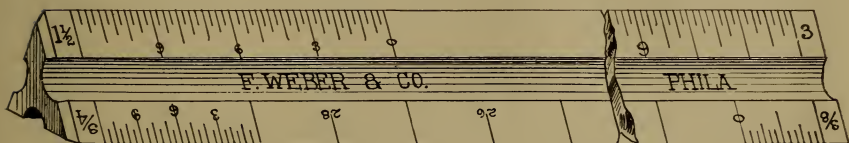

Fig. 22. Triangular Boxwood Scale.
2. SCALES OF DRAWINGS. It is not practical generally to lay out an object to actual dimensions on a sheet of paper of convenient size. Therefore, the object is drawn smaller, say  $\frac{1}{2}$ ,  $\frac{1}{4}$  or  $\frac{1}{16}$  of the actual size. In order to save time, use is made of a scale, such as shown in Fig. 22, where the lengths are shown to the reduced size. The triangular scale shown has six faces and different scales are marked on each of them.
4. USE OF SCALES. It will be noted that at the end of each face of scale, Fig. 22, 1 ft. is divided into inches and fractions, and on the other side of the zero mark only feet divisions are indicated. To lay off a dimension of feet and inches, for example 2 ft. 3 in., measure from the 2 ft. mark back to 0 and then to the 3 in. mark.